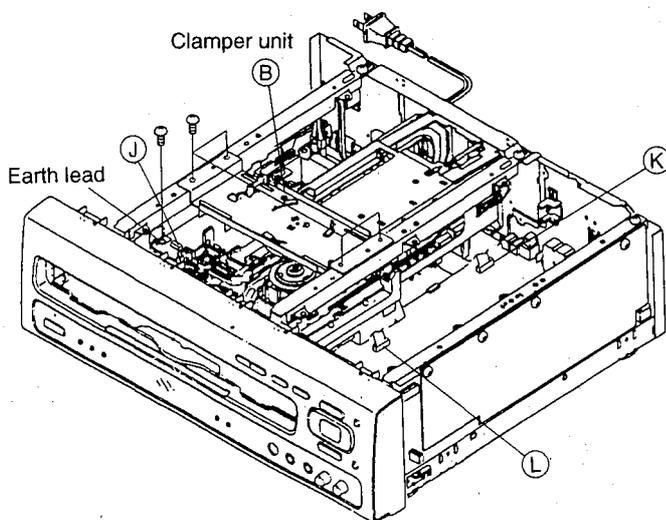

Fig. 1-2 Structure of set
1. Remove the clamber unit (B) (Fig. 1-2) by loosening its four screws.
1. Remove the clamber unit **B** (Fig. 1-2) by loosening its four screws.
1. Remove the clamber unit **B** (Fig. 1-2) by loosening its four screws, and remove the tray unit.
2. Remove the three connectors **I** to **L** (Fig. 1-2). Remove the earth lead by loosening its screw.